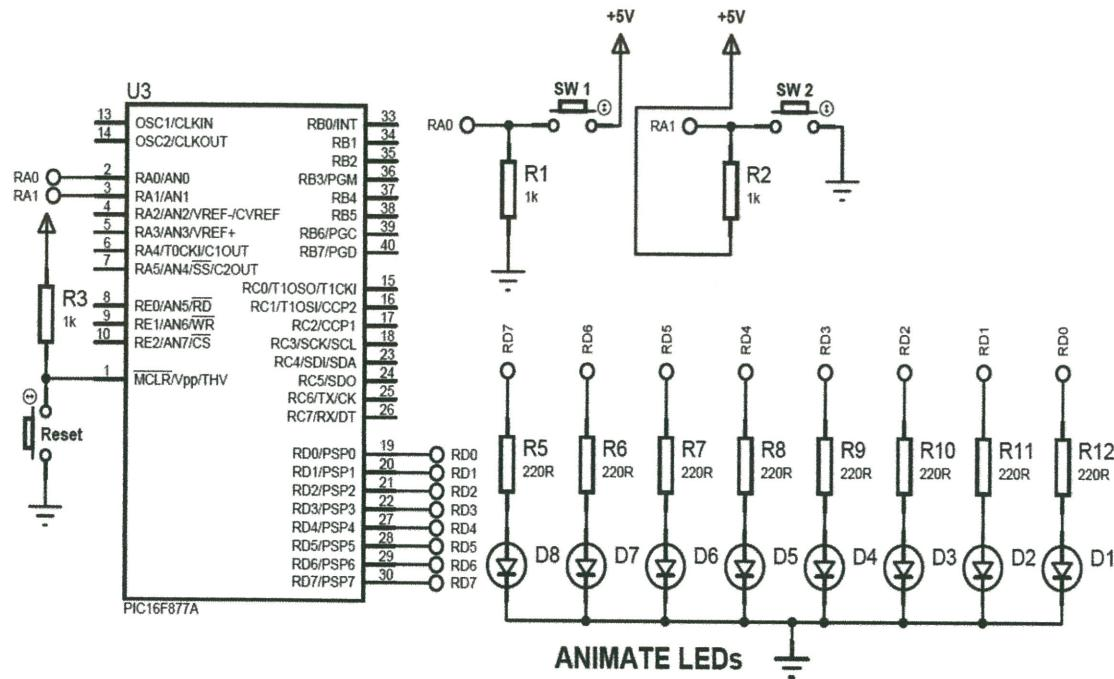

FIGURE Q3(b)
- (b) Based on the circuit **Figure Q3(b)**, write a running light application using MikroC language based on the condition below: